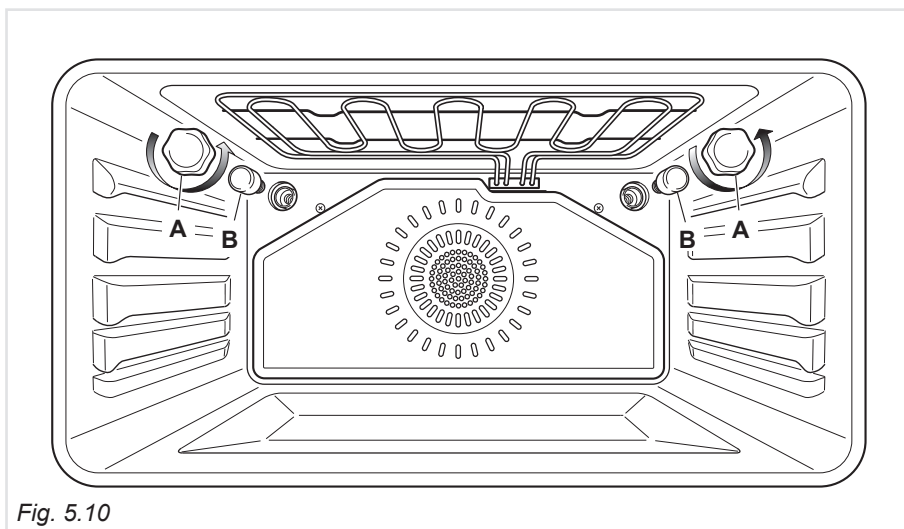

Fig. 5.10
REPLACING THE OVEN LIGHT (fig. 5.10)
- Remove the protective cover "A" (fig. 5.10).